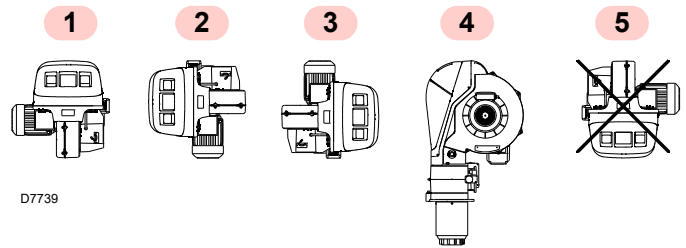

Fig. 10
- The burner is set up to operate only in positions **1, 2, 3** and **4** (Fig. 10).